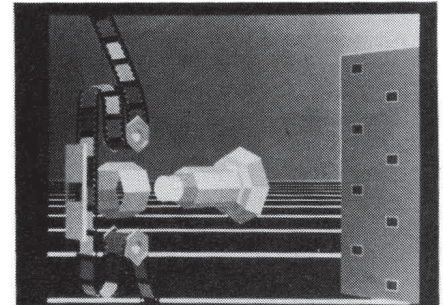

Figure 11
1) time exposures—the same film recorder that's used for vector graphics is capable of operating in a raster mode, too. As in the vector mode, each frame in a sequence is stored on film via a time exposure. Figure 11 is from a commercial produced by Digital Effects using a film recorder.